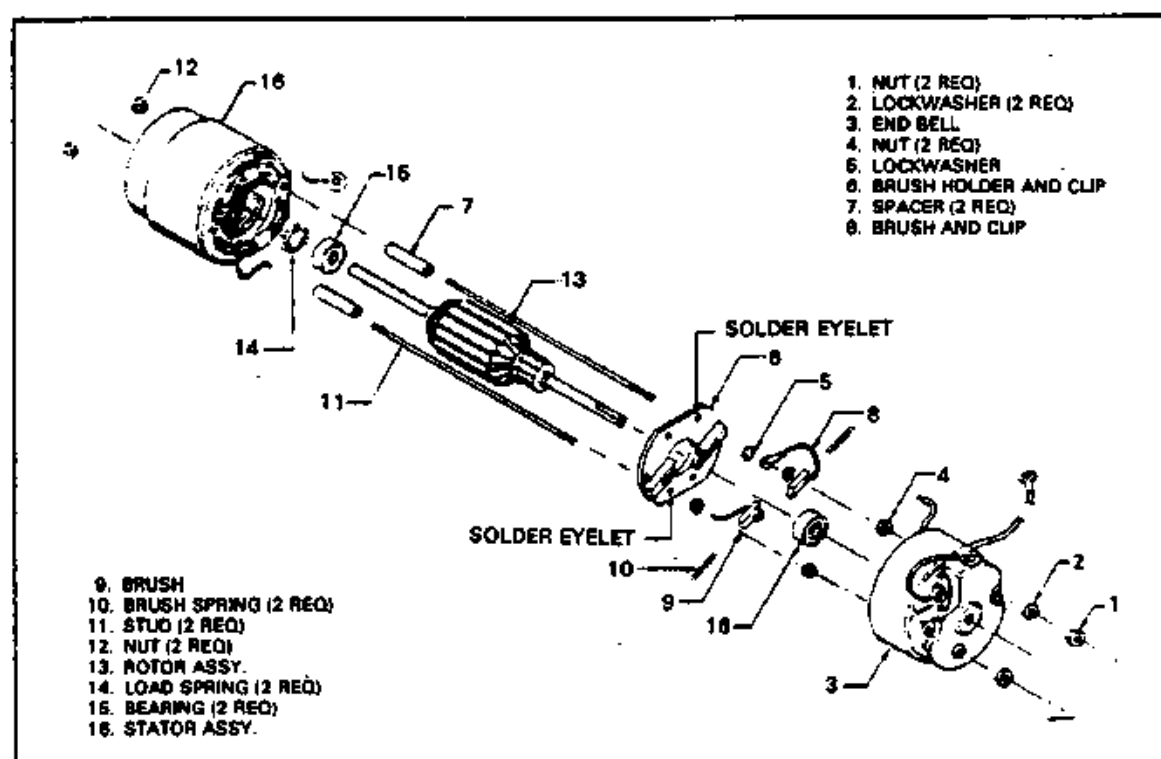

Figure 13-12. Ventilating Air Blower Motor
**13-60. VENTILATING AIR BLOWER MOTOR OVERHAUL.** An overhaul kit, PAC Part No. 754 306, is available for the ventilating air blower motors. This kit contains new bearings, brushes, and other parts required for installation. To overhaul the motor, proceed as follows: (Refer to Figure 13-12.)
a. Remove the two nuts (1) from the end of the motor and pull the end bell (3) off far enough to permit unsoldering of the capacitor lead from the eyelet on the brush holder insulator. Remove the end bell (3).
b. Remove the two nuts (12) from the other end of the motor and pull the two long studs (11) out of the stator (16) without disturbing the two nuts (4) which are threaded part way down to center the studs in the stator.
c. Pull the brush holder (6) out far enough to unsolder stator leads from the eyelets, then remove the brush holder assembly and brushes. If the stator does not have flexible leads to the solder eyelets, cut leads off close to the windings and solder in new leads of flexible stranded wire. This will prevent possible future failure due to vibration.